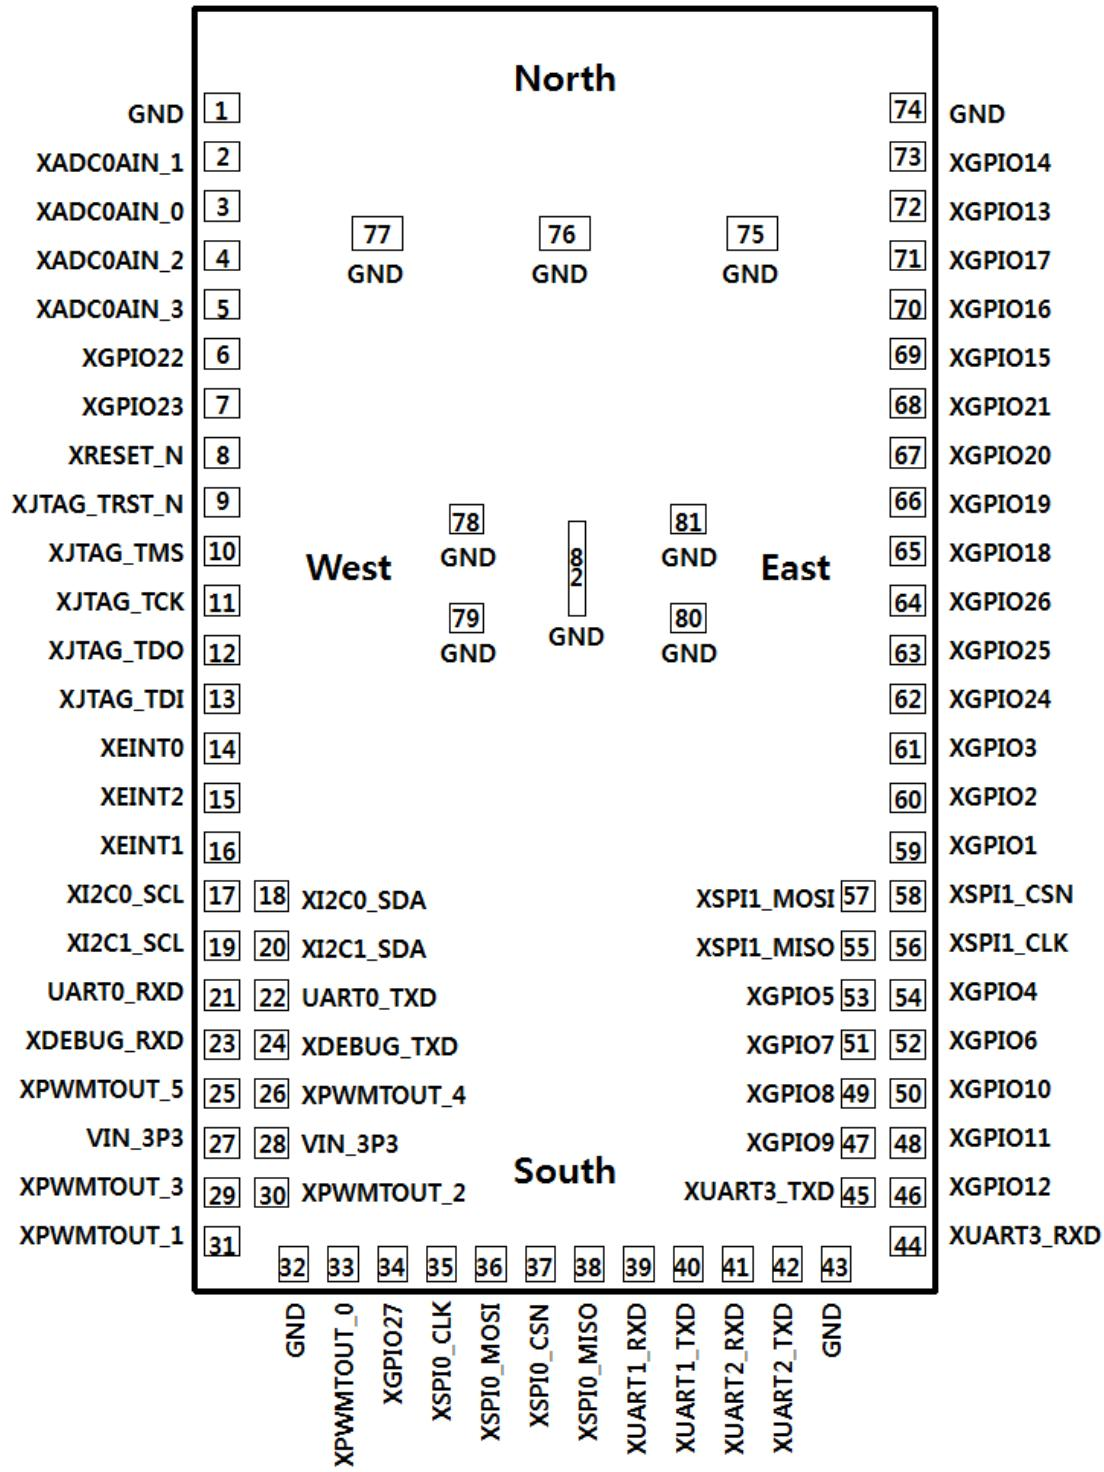

Figure 4. ARTIK 055s Module Edge Pinout (Top View)
- **Pad Number** defines the signal pad on the edge of the module. Refer to *Figure 4* for pad/signal physical layout.